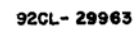

Fig. E-2 - ROM Circuits and Expansion Interface
- Fig. E-2 ROM Circuits and Expansion Interface